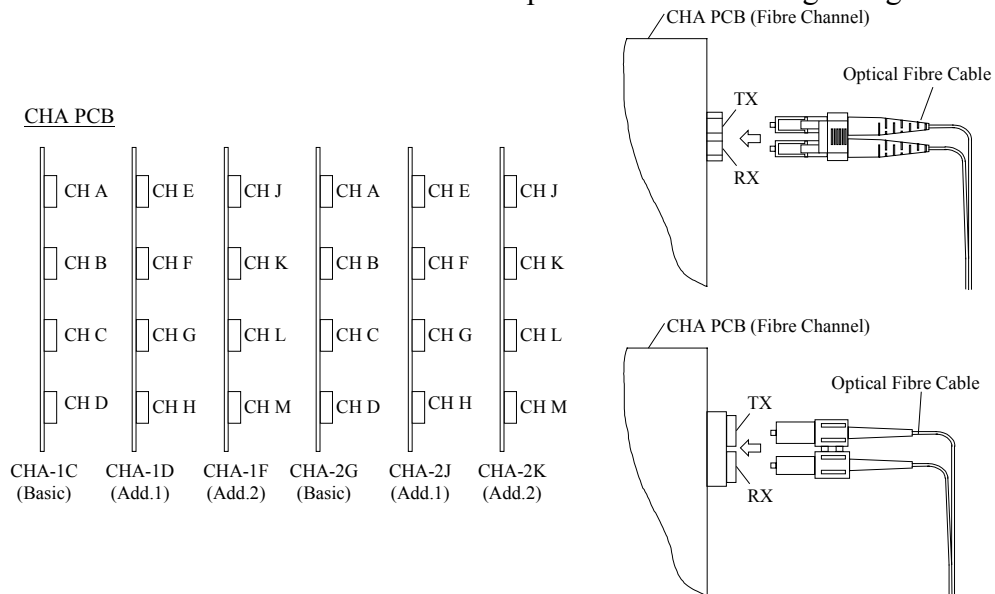

Fig. 3.6.2-4 Connection of Optical Fiber Cable
- Fix the cable to base and attach the cable clamp and bracket referring to Fig. 3.6.2-3.